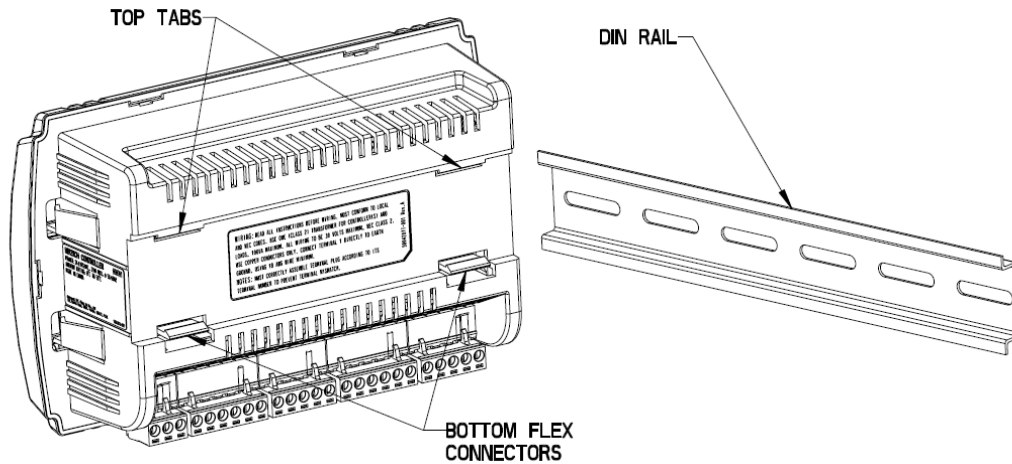
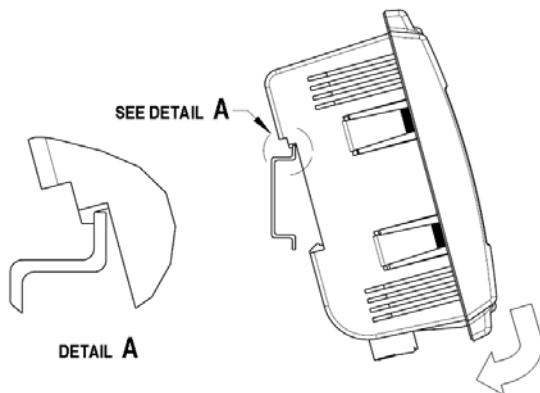

Figure 5: DIN Rail Installation
Figure 6: The Installation Sketch Map
1. Holding the controller with its top tilted in towards the DIN rail, hook the top tabs on the back of the controller onto the top of the DIN rail. (see Figure 5 and Figure 6)